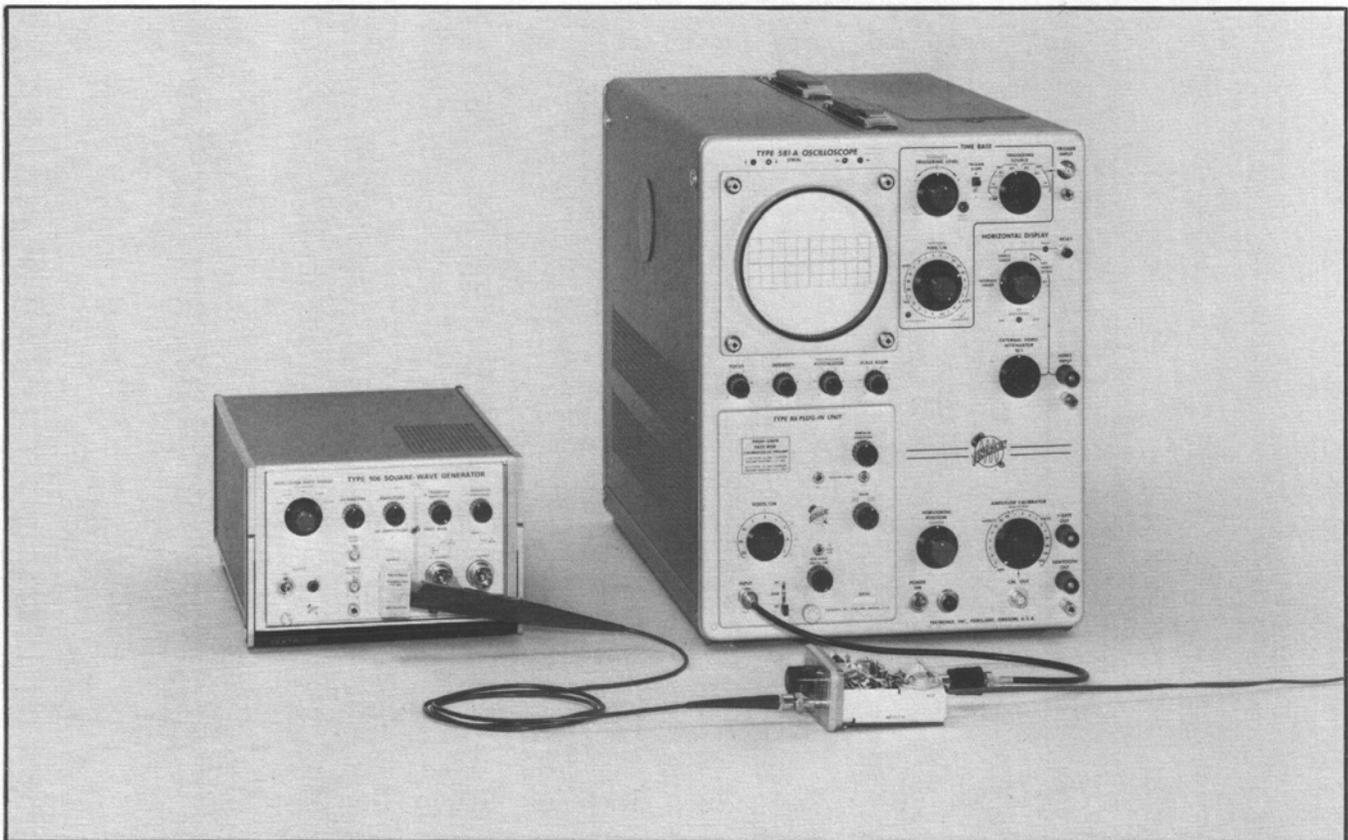

Fig. 5-2. Test setup for LF COMP adjustment.
- Connect the P6021 probe from the Type 134 input to the high-frequency test fixture (see Fig. 5-2).
- Connect the P6022 probe from the Type 134 input to the high-frequency test fixture (similar to Fig. 5-2).